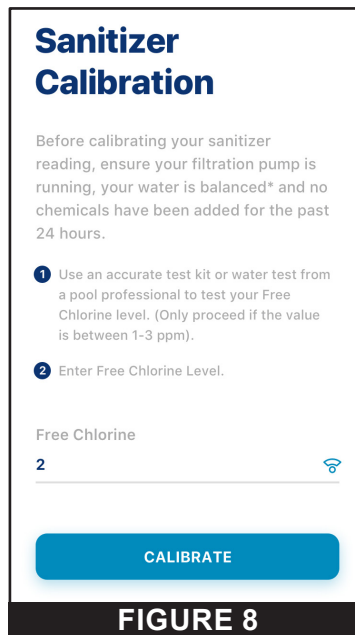

FIGURE 8
After pairing ChemCheck to Pentair Home, the Sanitizer Calibration screen will display (**Figure 8**). ChemCheck must be calibrated before being placed into regular operation. Failure to calibrate will lead to incorrect or misleading water quality readings.
3. Enter the Free Chlorine value given by the water test strip. See **Figure 8**.